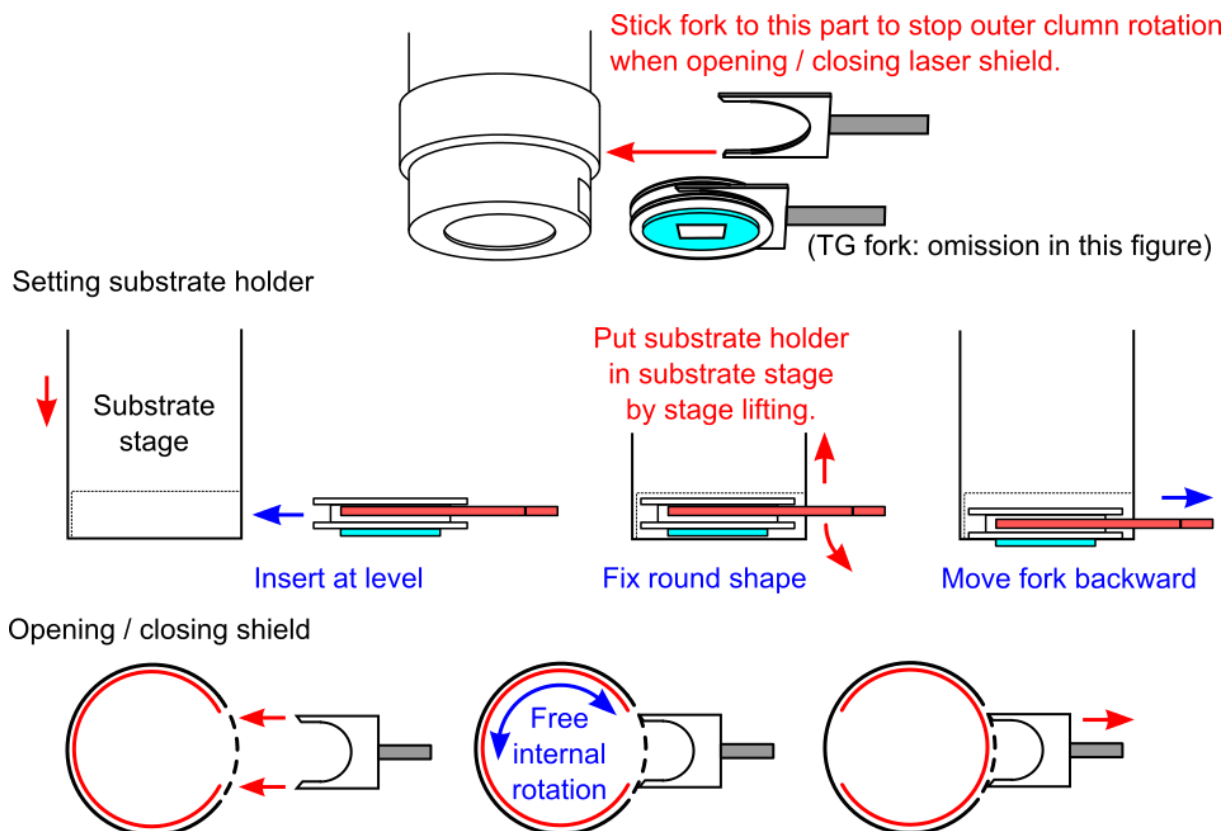

Figure 6: Substrate holder transfer to the substrate stage in the main chamber.
- (3) Transfer a substrate holder (see Figure 6)